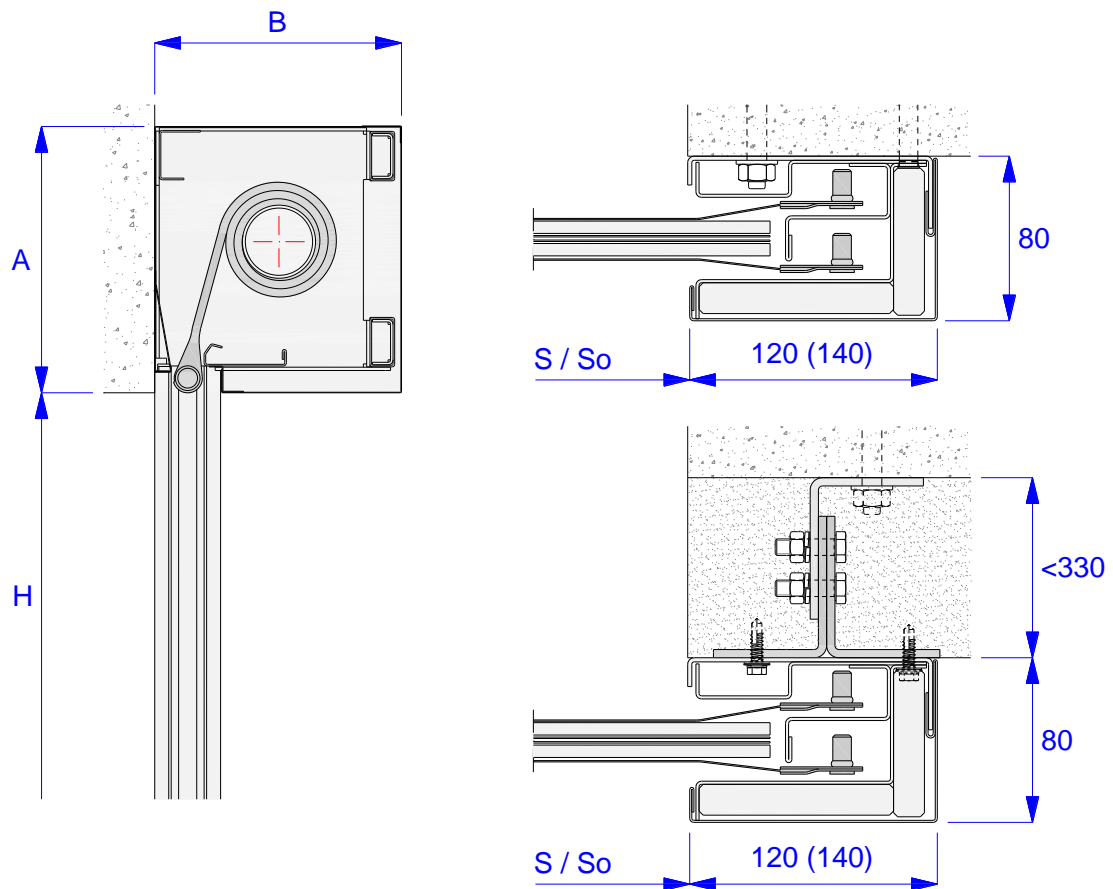

Fig. 3 - ISOiK-Ok30-01.03 MARC-Ok + EI30 fire protection curtain door – wall-mounted
1) – See Figures 3, 4
1), 2) – As shown in Figures 3, 4